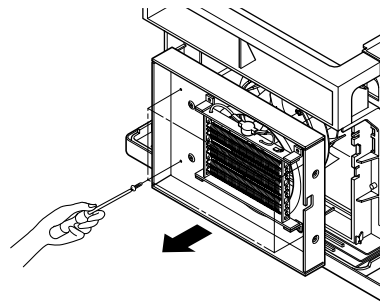

FIG. 28
5. Remove the 2 terminals carefully (See Fig. 28, at Electric Heater Model only)
6. Remove the 4 screws which fasten the orifice. (See Fig. 28)
7. Remove the orifice. (See Fig. 28)